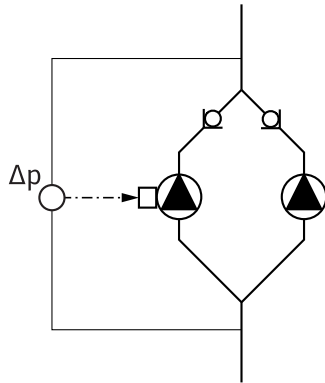

Fig. 13: Example, differential pressure sensor connection
- In the example in Fig. 13, the master pump is the left-hand pump in the direction of flow. Connect the differential pressure sensor to this pump. The measuring points of the differential pressure sensor of the master pump must be on the suction and pressure side of the double-pump system in the corresponding collector pipe (Fig. 13).